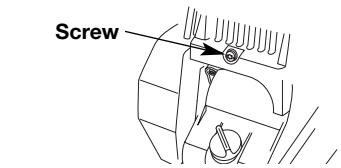

Fig. 34
- Remove the screw behind the engine cover (Fig. 34).